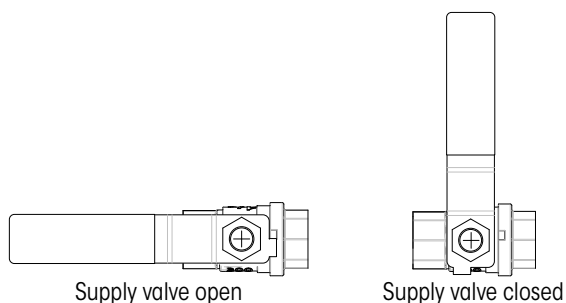

Figure 47: Supply Valve Operation
3. Ensure TIREMAAX supply valve (if equipped) is in open position (Figure 47).